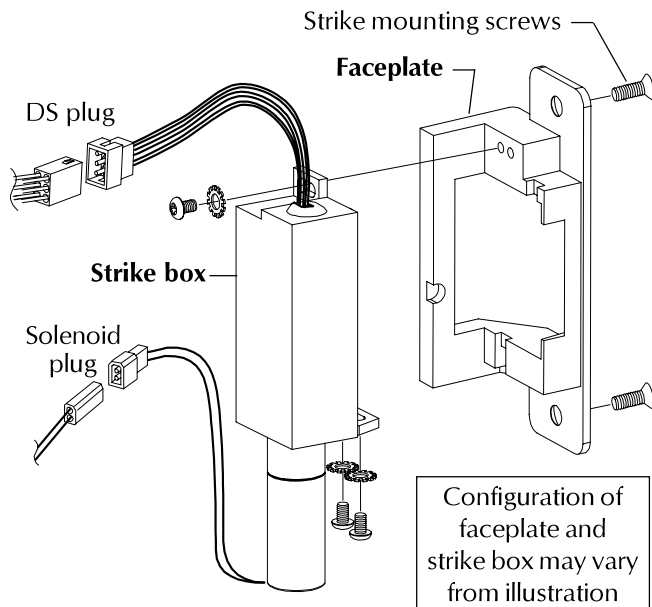

Figure 1
**1** Remove strike from door frame, unplug wiring plugs, and remove strike box from faceplate as shown (Figure 1).